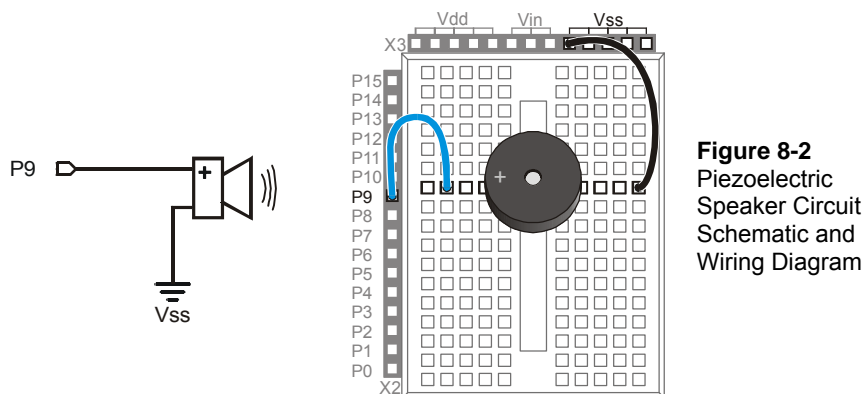

Figure 8-2
- ✓ Build the circuit shown in Figure 8-2.